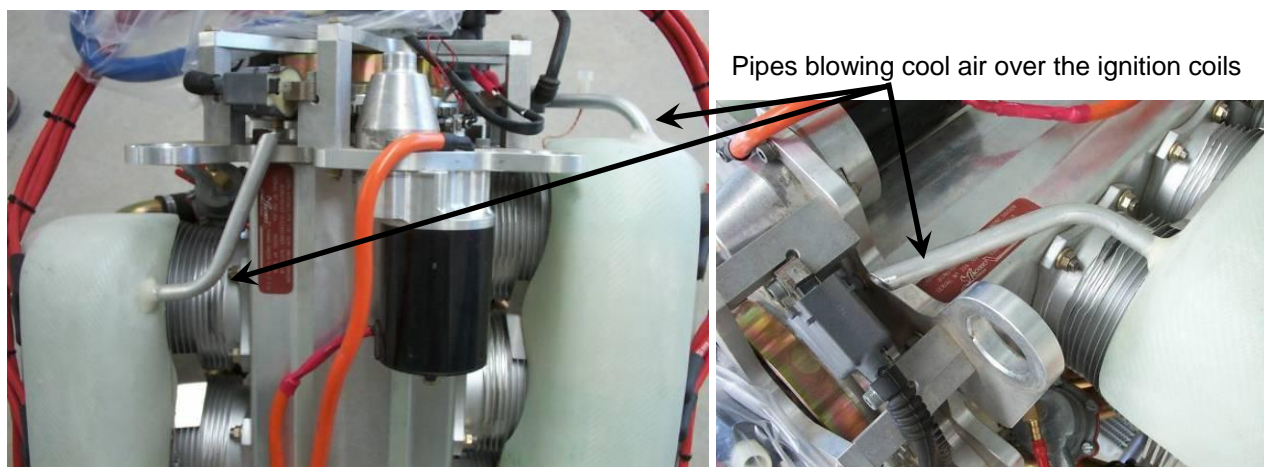

Figure 53. Coil Cooling Detail
- Tubes of approximately 12mm diameter are required to provide cooling air to the ignition coils - Figure 53.